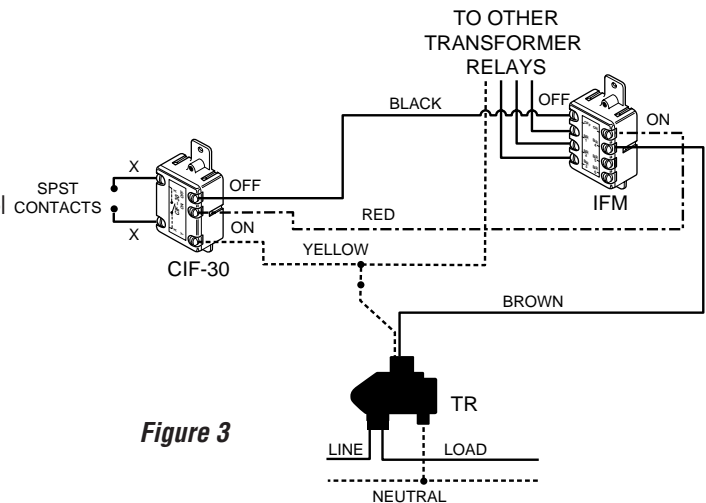

Figure 3
Step 2. Use suitable low-voltage wiring to connect CIF-30 to IFM(s) and SPST switch as illustrated in Figure 3.